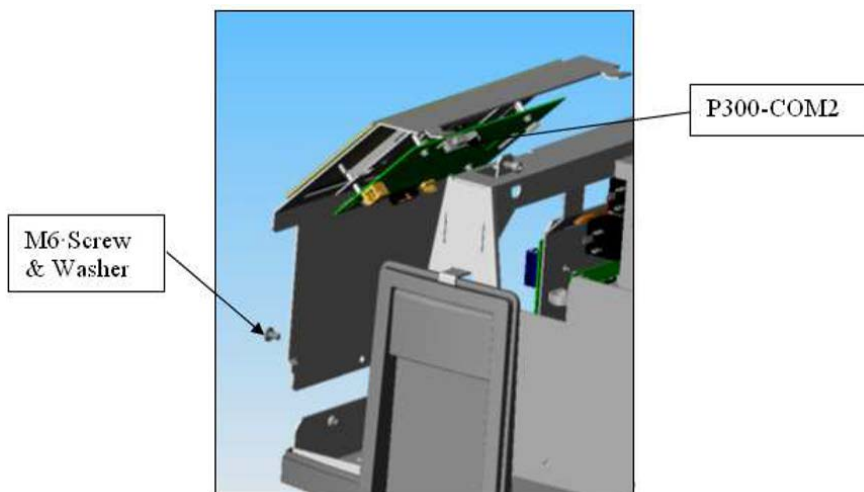

Figure 16 Front Panel Display
- 14 Remove the M6 screw and washer from the front panel display and detach the display (Figure 16: Front Panel Display).